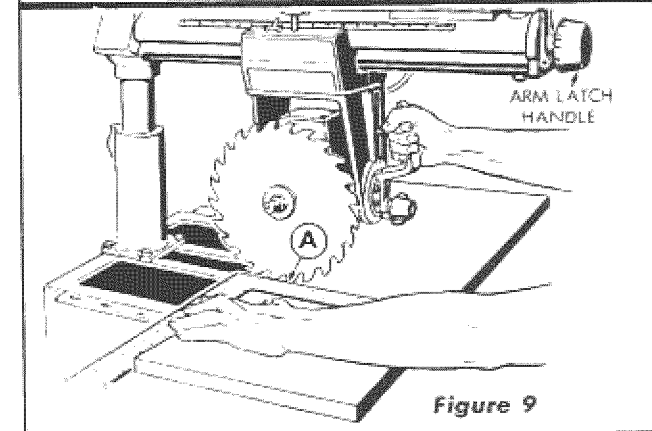
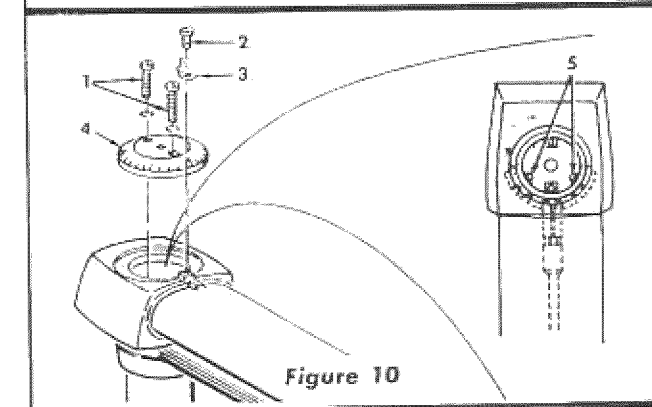

Figure 9
Figure 10
1. Loosen the arm latch handle (figure 9) 1/4 turn. Make sure the yoke clamp handle and bevel lock knob are tight.
4. Place a framing square on the table as shown in figure 9 and position the saw and square until the leg of the square just contacts a tooth of the saw blade. (Position "A", figure 9.) Mark this tooth with crayon or chalk.
- a. If saw tooth ("A", figure 9) moves away from the square when moving the blade from the rear toward the front of the table, tap the right-hand front edge of the table.
- b. If the saw tooth ("A", figure 9) moves into the square when moving saw from the rear to the front of saw table, tap the left-hand front edge of table.
- a. Remove three screws (1 and 2, figure 10), miter-scale indicator (3) and radial arm cap (4).
- b. Turn the arm latch handle (figure 9) one-quarter turn counterclockwise but do not pull it out.
- c. Loosen (do not remove) two hex-head screws (5, figure 10) located inside the column tube.
- d. Move radial arm slightly in the proper direction to make saw tooth ("A", figure 9) follow edge of square when the saw blade is moved in and out in a "cross-cut" manner.
- e. Re-tighten the hex head screws (5, figure 10) and arm latch handle (See figure 9).
- g. After the cross-cut has been accurately squared, install the radial arm cap (4, figure 10), miter-scale indicator (3) and screws (1 and 2). Set the indicator (3) at 0° position.